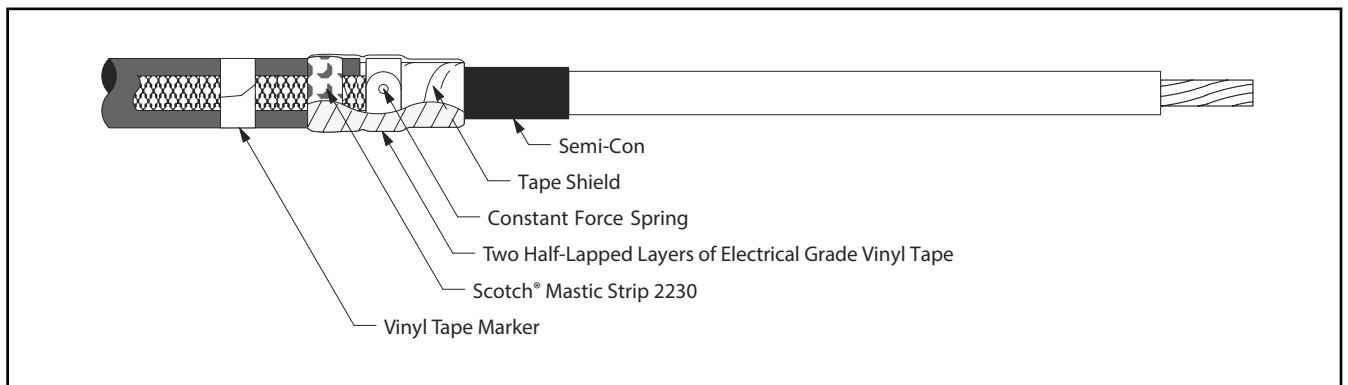

Figure 5
- 2.5 Wrap two highly stretched half-lapped layers of electrical grade vinyl tape around mastic seal, constant force spring and exposed tape shield (*Figure 5*).